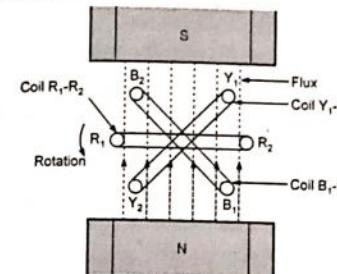

Fig. 4.3.1 Generation of 3 phase
- Consider armature of alternator divided into three groups as shown in the Fig. 4.3.1. The coils are named as  $R_1-R_2$ ,  $Y_1-Y_2$  and  $B_1-B_2$  and mounted on same shaft.